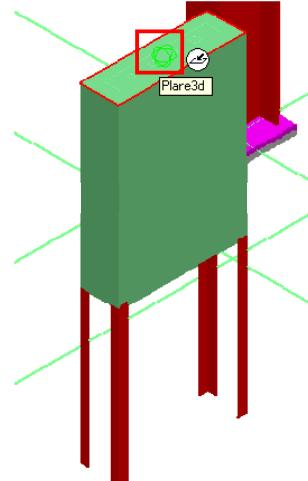

Figure 5: Cable Tray Port of the Electrical Device
19. Click the cable tray port of the **Electrical Device** to place the control point as shown in the highlighted area in Figure 5.